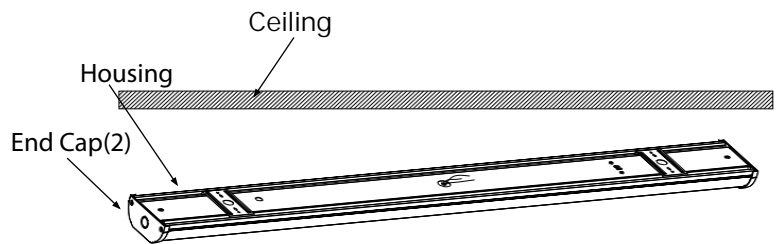

Fig.1
2. Pull supply wires through the outlet, use correct UL-rated wire connectors as required by the National Electric Code to make electrical splices to fixture leads. See Fig.1